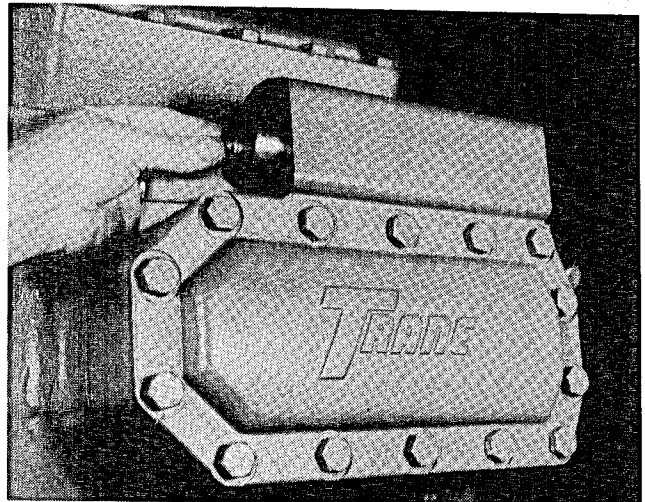

Figure 13
2. Remove the unloader piston (Figure 13).
5. Insert the piston into the unloader valve housing (Figure 13). Check the movement of the piston to be sure it slides freely in the housing.